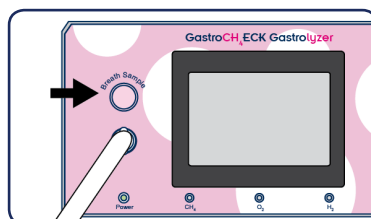

fig.8
4. Press the "Breath Sample" button on the instrument to initiate a breath test. (fig. 8)